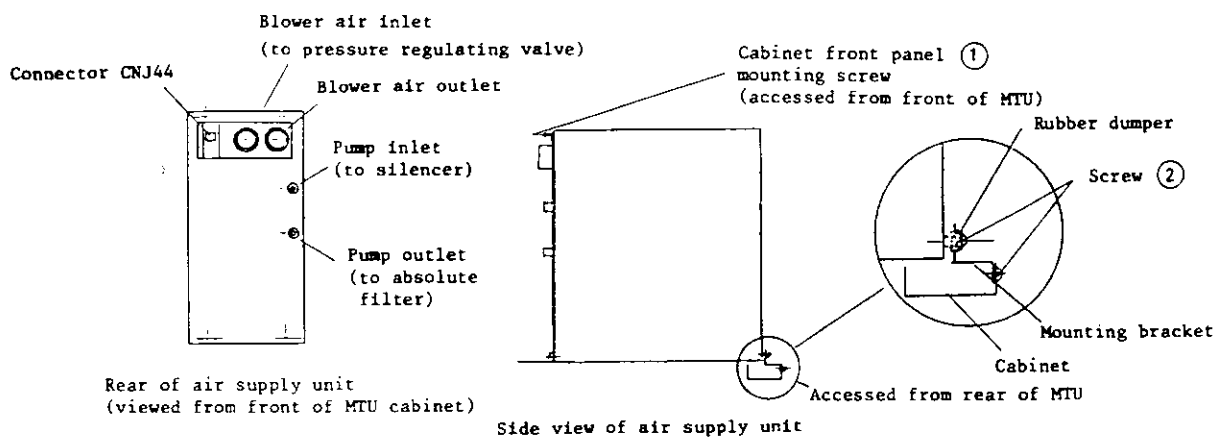

Figure L.43 Air supply unit
- (1) Open the MTU lower left-hand door. Remove six screws and remove the plate to gain access to the front of the air supply unit.
- (2) Disconnect the hose from the blower air inlet and blower air outlet, shown in Figure L.43.
- (3) Disconnect the tube at the pump outlet.
- (4) Disconnect power connector CNP44 of air supply.
- (5) Remove two screws ① at the front of the air supply unit.
- (6) Open the MTU rear door and remove four screws ② and remove the air supply unit mounting bracket.
- (7) Remove the air supply unit.